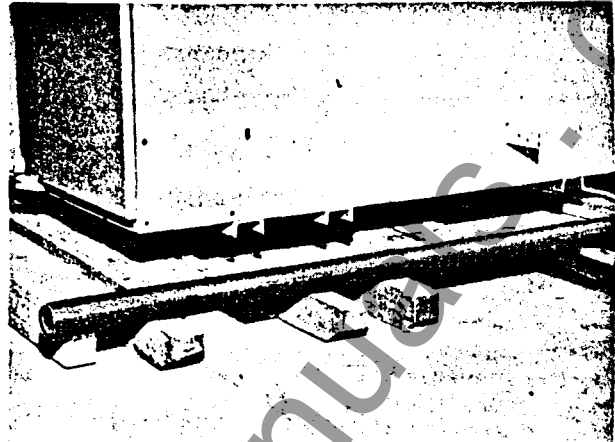
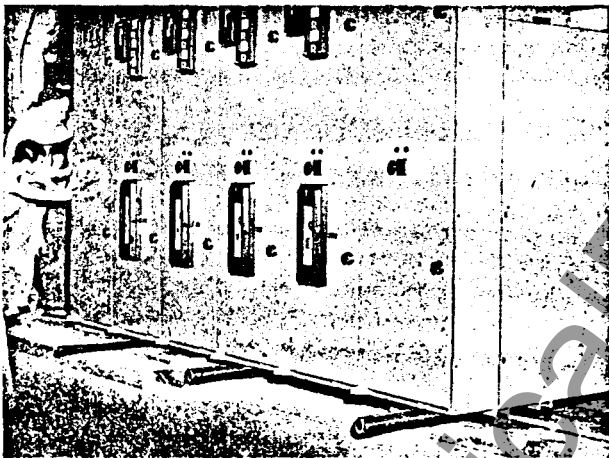
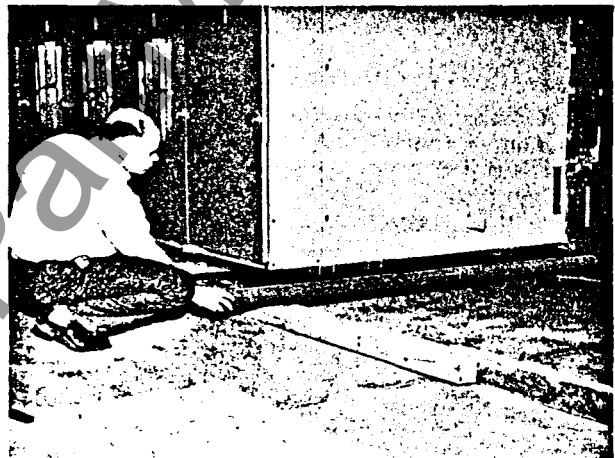

Fig. 2—Switchgear Lowered on Rollers Prior to Moving Onto Track Timber
Fig. 3—Longitudinal Moving of Switchgear from Shipping Skid
Fig. 4—Method of Applying Rollers as Switchgear Progresses Onto Track Timber
3. Place timber to extend longitudinally from skid as shown in Fig. 2. While crew push switchgear, Fig. 3, have one man insert roller as shown in Fig. 4. Continue this operation until housing is entirely on track timber.